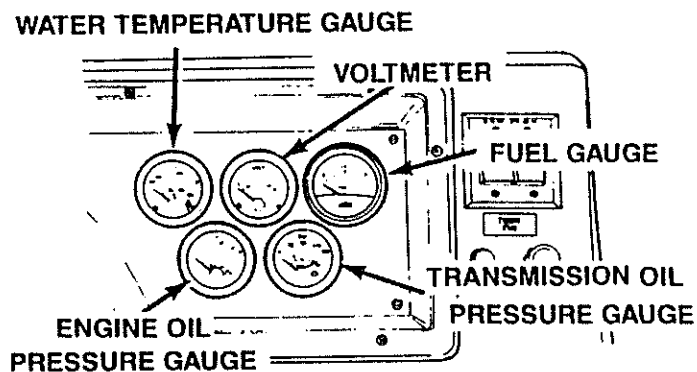

Figure 3-14 Engine Instruments
- See Figure 3-14. Check that oil pressure is 45 to 65 PSI. If pressure is low, immediately shut down engine.
- See Figure 3-14. Check that the transmission oil pressure is between 275 and 350 PSI (ZF350) or 205 and 237 PSI (Twin Disc 5111 in gear).
11. See Figure 3-14. Check that oil pressure is 45 to 65 PSI. If pressure is low, immediately shut down engine.
16. See Figure 3-14. Check that the transmission oil pressure is between 205 and 237 PSI (Twin Disc 5111 in gear) or 275 and 350 PSI (ZF350).